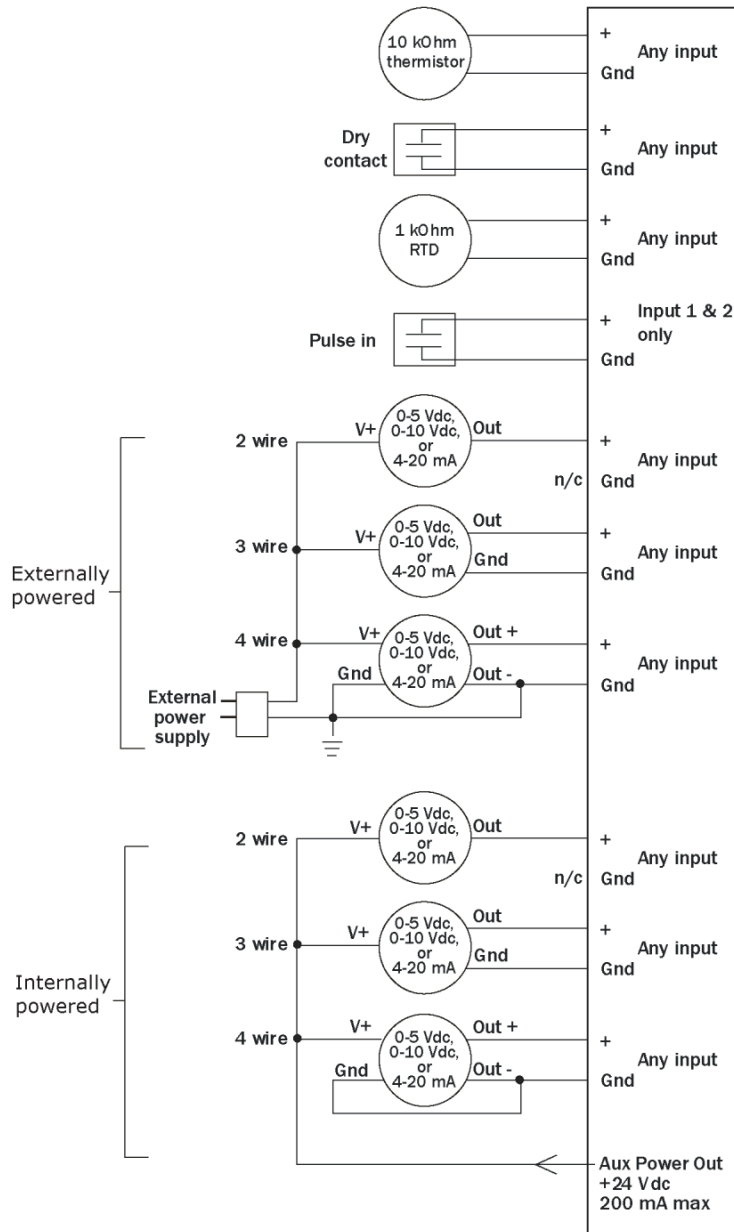

Fig. 2 — TruVu™ Typical Wiring
2. Connect the input wiring to the screw terminals on the TruVu controller as shown in Fig. 2.